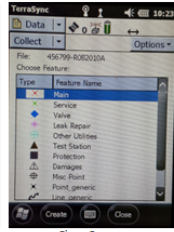

Figure 2.
5. Select the feature that will be captured. Choices should look similar to Fig. 2. Select a feature and click **Create** at the bottom of the screen. See below for GPS Data Collection Requirements.